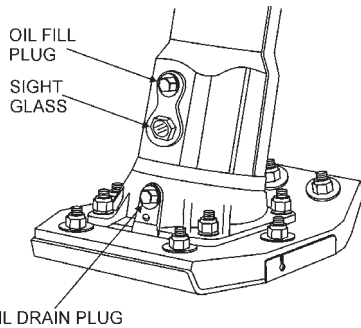

Figure 1. Foot Housing Sight Glass
1. Check the oil level through the oil level sight glass (Figure 1) at the rear of the tamper foot.
2. If oil is not visible, add 10W-30 motor oil into the oil fill plug opening (Figure 1). The bath contains approximately 1.7 pints (800 cc.). The oil level should be kept at the half way point of the sight glass.